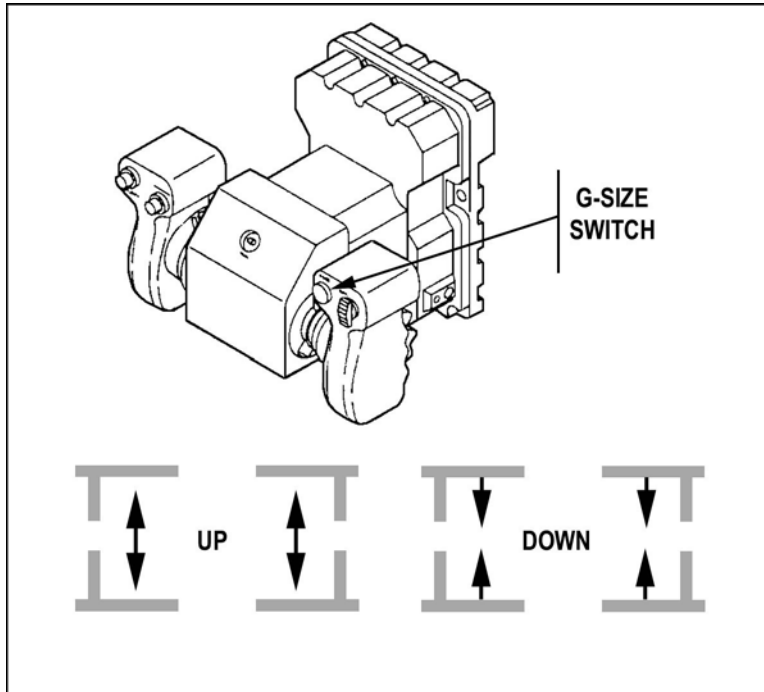

Figure 15. G-SIZE UP/DOWN switch.
- (1) Move the gate-size (G-SIZE) switch up to move the horizontal lines apart or down to move the horizontal lines together (Figure 15).